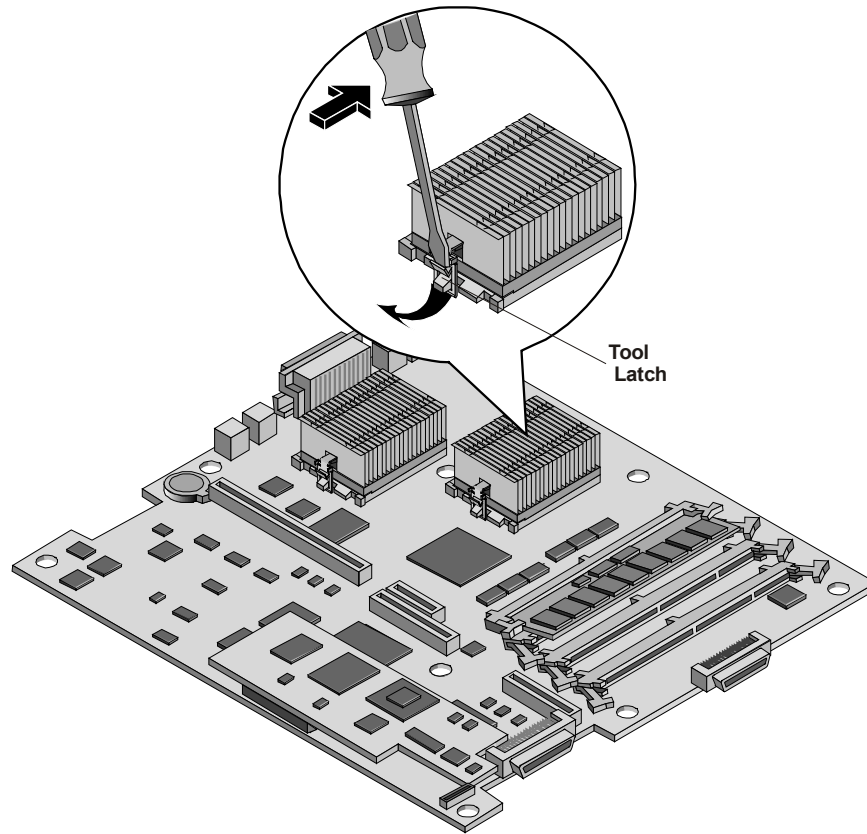

Figure 6-8. Removing the Heatsink
2. Use a screwdriver or similar tool to unhook the tool latch on the heatsink. See Figure 6-8.